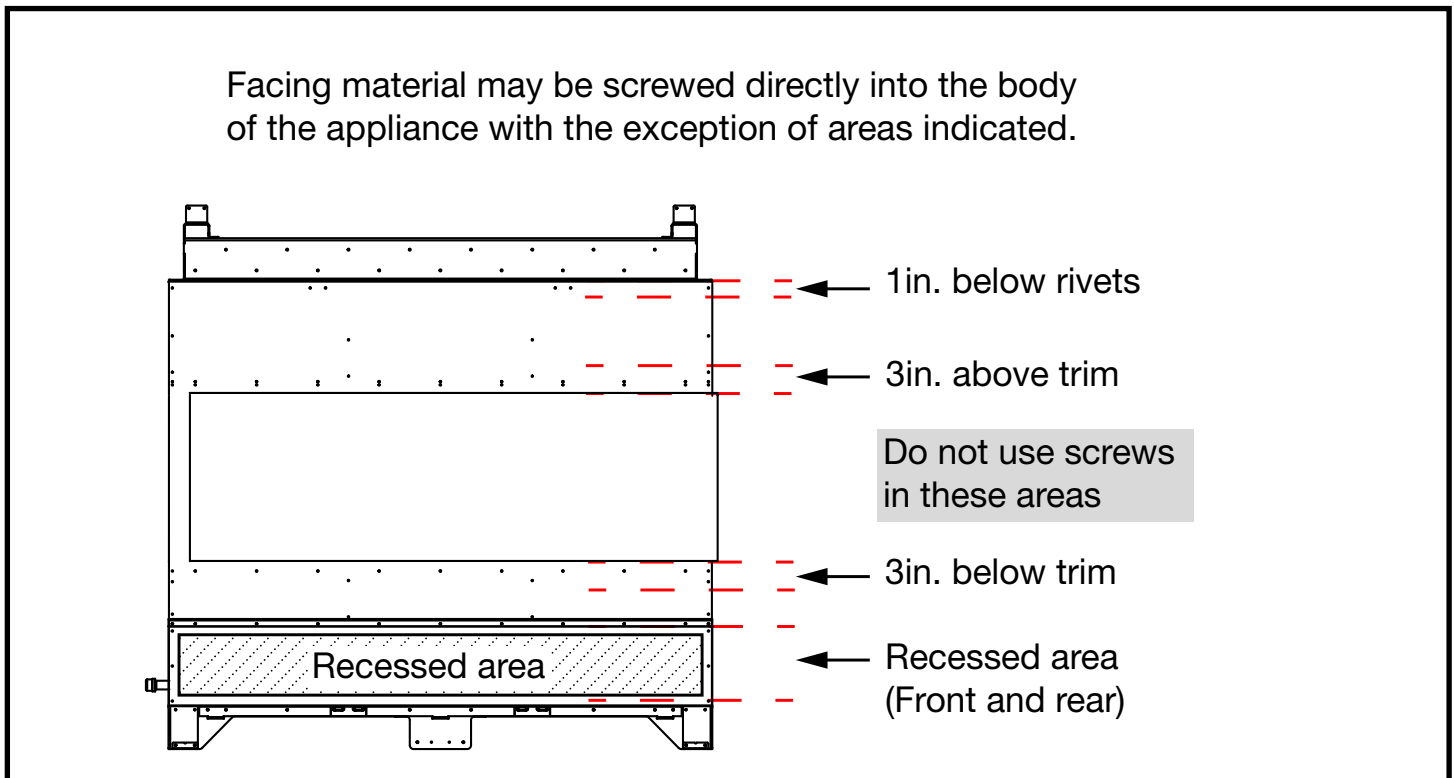

Figure 6: Facing attachment area for Bottom Intake models.
2. Facing material can be secured directly to the front and sides of the unit except in the areas indicated in this example by Figure 6. Each model will have its own specific areas in which screws must not be driven into.